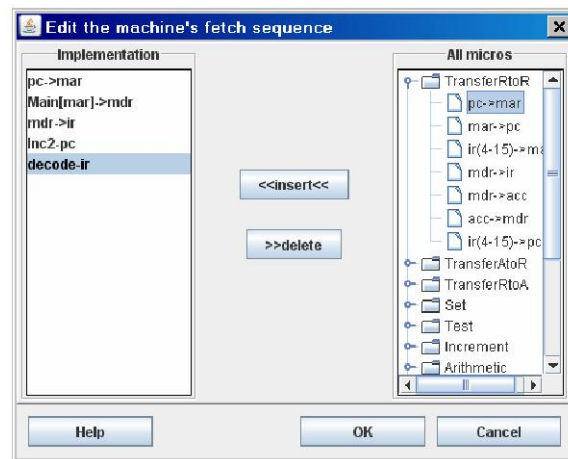

Figure 4: The dialog for editing the fetch sequence.
3. To specify where the new microinstruction is to be inserted into the fetch sequence, click on the microinstruction in the left scroll box before which you want to insert the new microinstruction and click "<<insert<<" (see Figure 4).